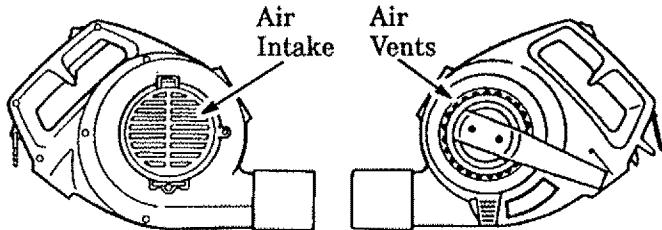

Figure 10
1. **Keep the air intake clean and air vents free of debris to avoid overheating the motor.** Figure 10. Prevent foreign objects from entering fan area.